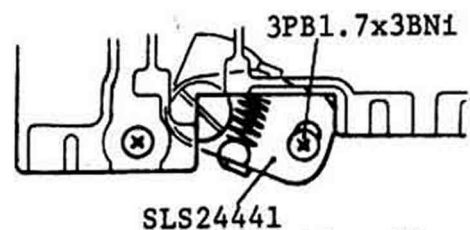

Fig. 69
- 1) After loosening a 3PB1.7x3BN1 Screw, adjustment is made by moving the SLS24441 Adjusting plate as shown in Fig.69.